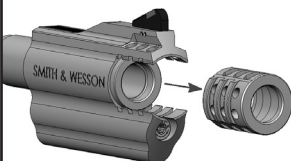

FIGURE 27
3. Remove the compensator from the barrel for cleaning or for a compensator change (FIGURE 27).